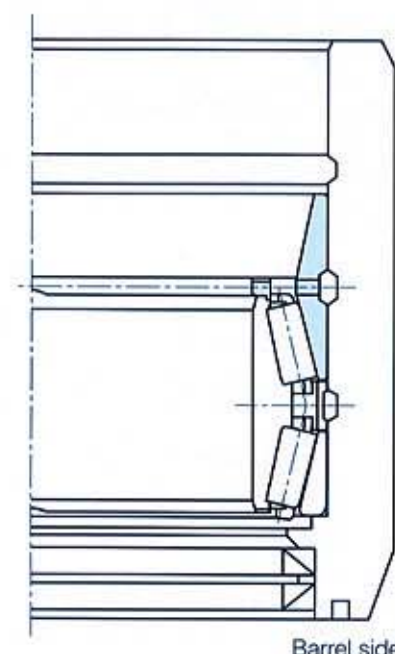
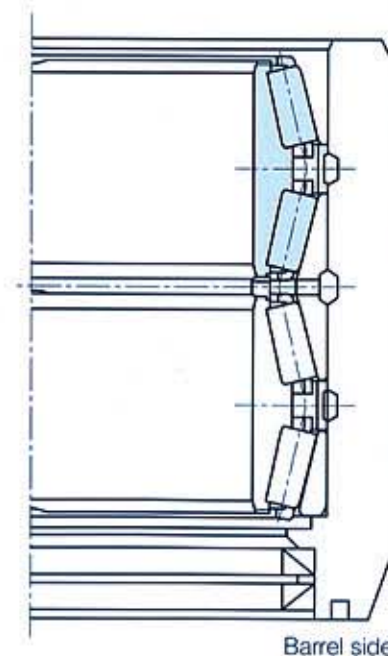

Fig. 3.3
Fig. 3.4
- (9) Apply grease over all the surfaces of cone spacer, and assemble it with the rib side facing downward. (**Fig. 3.3**)
- (10) Insert the cup spacer with matching symbol D.
- (11) Apply grease to the bore and end surfaces of the cone with matching symbols CE-E.
- (12) Apply grease to both cage and roller sets. Turn the cage and roller sets to spread lubricant to the inside of the bearing (cone raceway and rib surfaces).
- (13) Lift the cone, with the matching symbol E side facing upward, and assemble it into the chock. (**Fig. 3.4**)